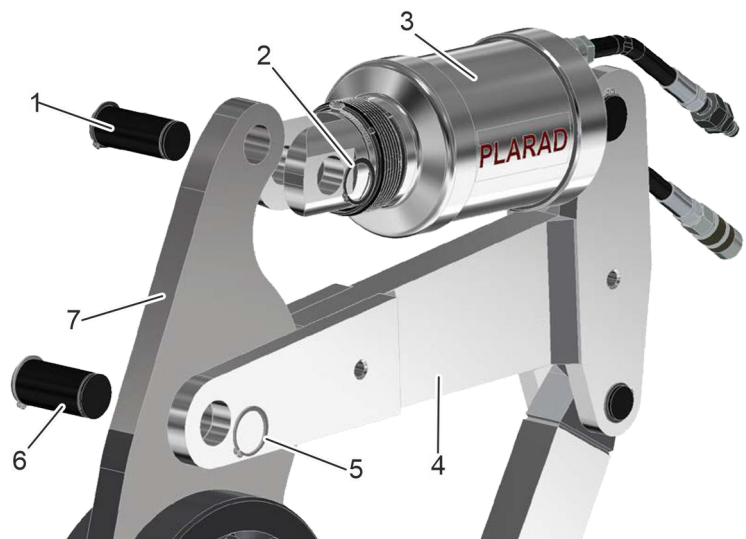

Fig. 5: Attaching the ring spanner bit
3. ➤ To attach a ring spanner bit, slide the fastening pin (Fig. 5/1) all the way through the holes in the ring spanner bit (Fig. 5/7) and drive cylinder (Fig. 5/3).
4. ➤ Fasten the fastening pin (Fig. 5/1) with a circlip. To do so, slide on the circlip (Fig. 5/2) with the aid of the circlip pliers (Fig. 6) and clamp it.
5. ➤ Slide the fastening pin (Fig. 5/6) all the way through the holes in the ring spanner bit (Fig. 5/7) and reaction arm (Fig. 5/4).
6. ➤ Fasten the fastening pin (Fig. 5/6) with a circlip. To do so, slide on the circlip (Fig. 5/5) with the aid of the circlip pliers (Fig. 6) and clamp it.